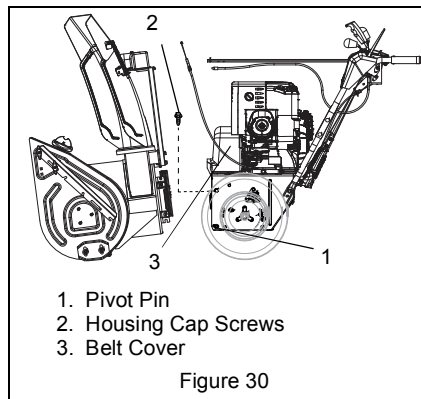

Figure 30
(Figure 30)
2. Loosen hardware securing belt cover to unit (Figure 30).
9. Remove hex bolts securing housing to frame (one on each side). Tip housing and frame apart on pivot pin (Figure 30).